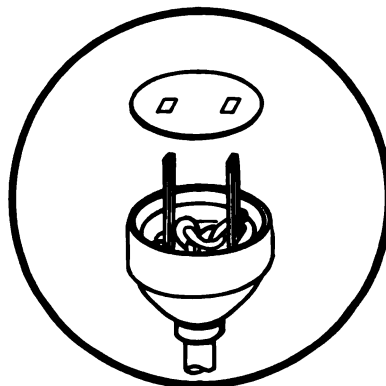

Fig. 11
11. Place insulation cover back over the plug. (Fig. 11)